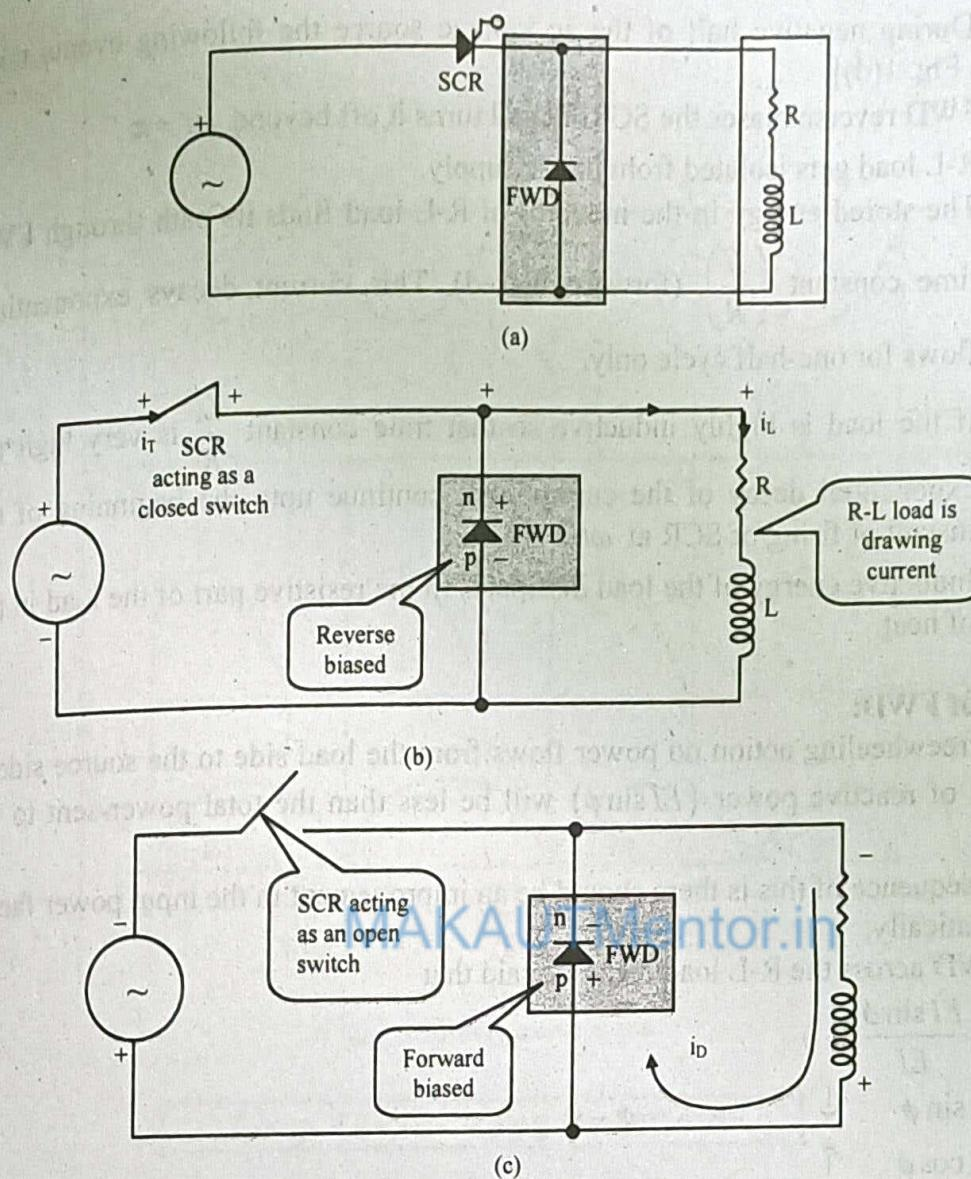

Fig: 1 (a) Inserting FWD across the R-L load
Fig. 1(a) shows that a diode (FWD) is connected across the R-L load. The diode is reverse biased when R-L load is drawing current from the source and forward biased when the SCR is reversed biased.
- Voltage is induced in the inductor (L) following Faraday's laws of induction.
- FWD is reverse biased. [Fig. 1(c)] so it does not take any active role in the operation of the circuit during  $\omega t = \alpha$  to  $\omega t = \pi$
- Step 2:** During negative half of the ac voltage source the following events take place [Refer to Fig. 1(d)]
- FWD reverse biases the SCR(T) and turns it off beyond  $\omega t = \pi$ .